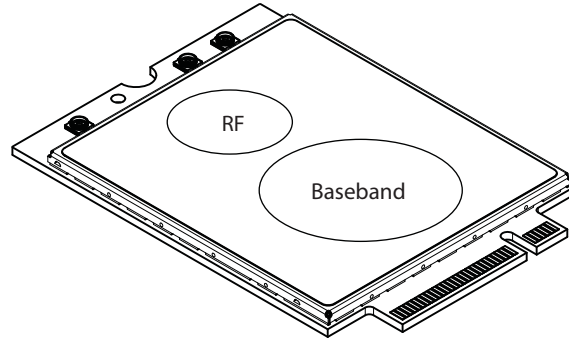

Figure 7-4: Shield Locations (Top View)
Specific areas requiring heat dissipation are shown in Figure 7-4:
- Monitor temperature at all shield locations. Attach thermocouples to the areas indicated in Figure 7-4 on page 59 (RF, Baseband).